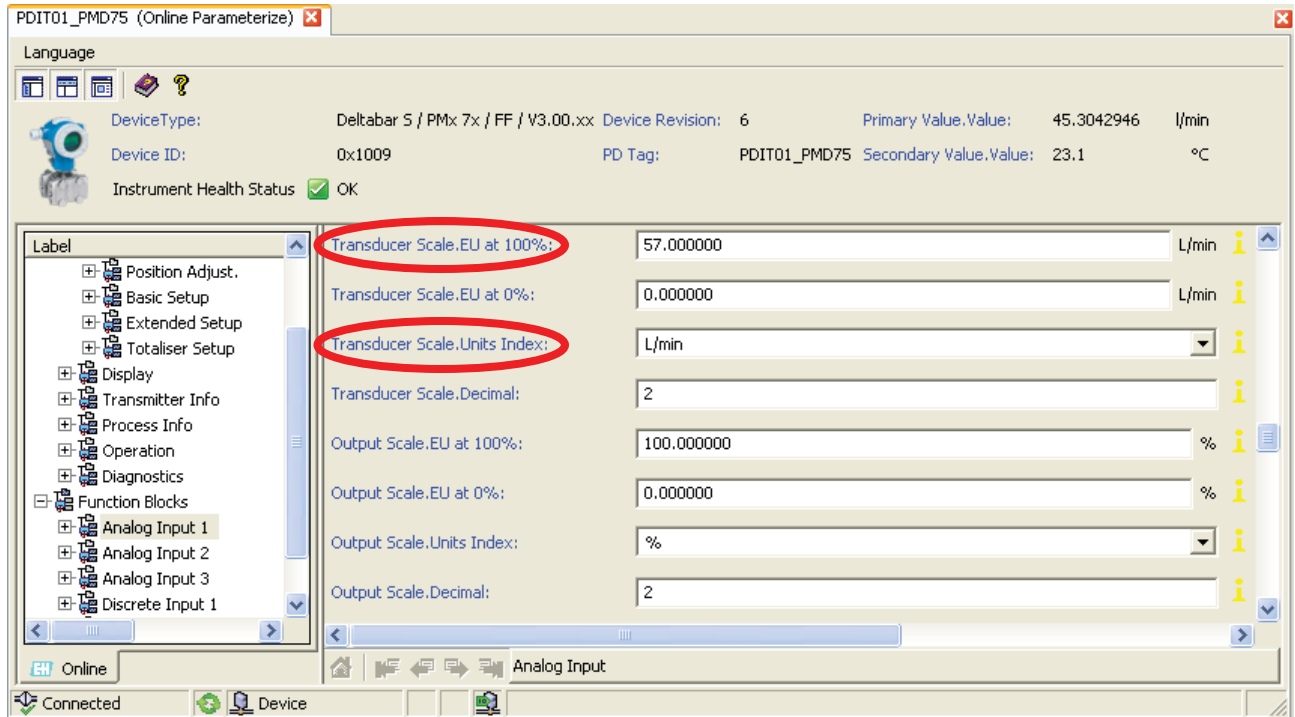
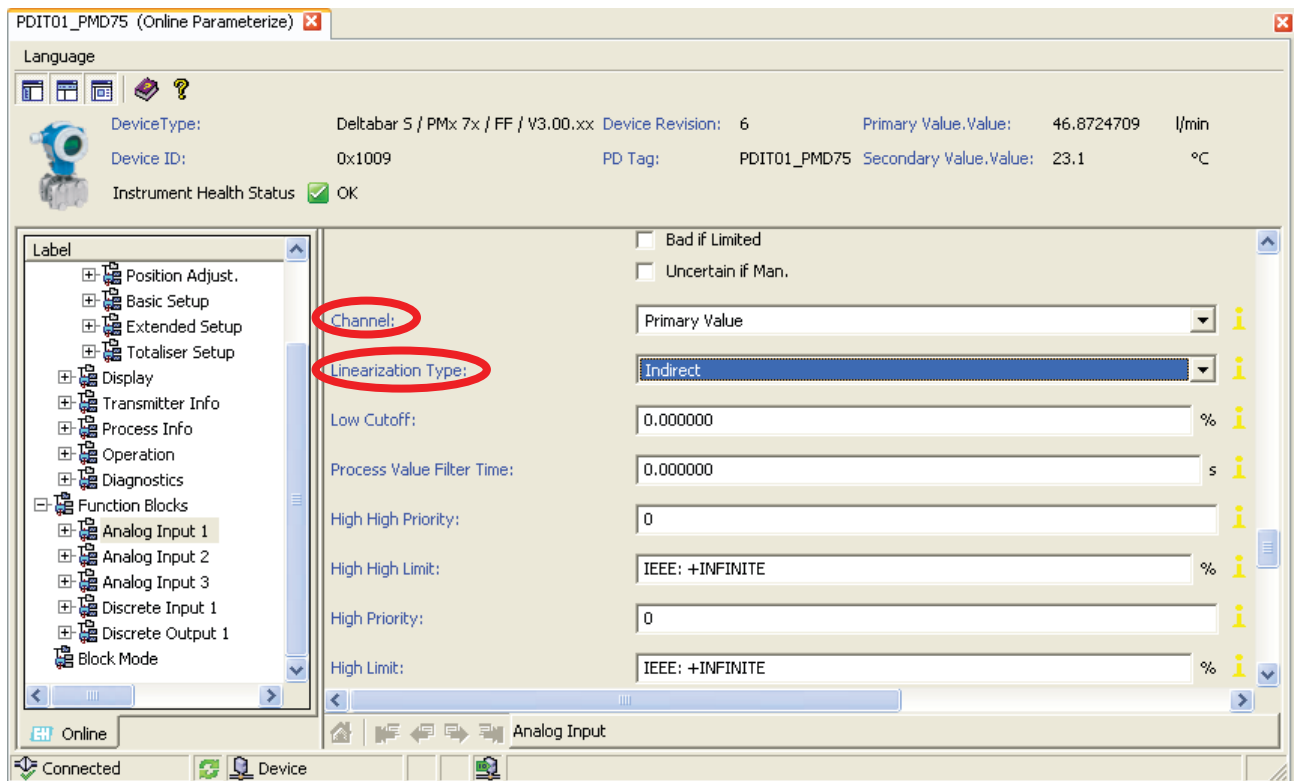

Figure 2-21. Transducer Scale.
Figure 2-22. Channel and Linearization Type.
34. Go to *Function Blocks* ► *Analog Input 1* and make the changes illustrated in Figure 2-21 and Figure 2-22: